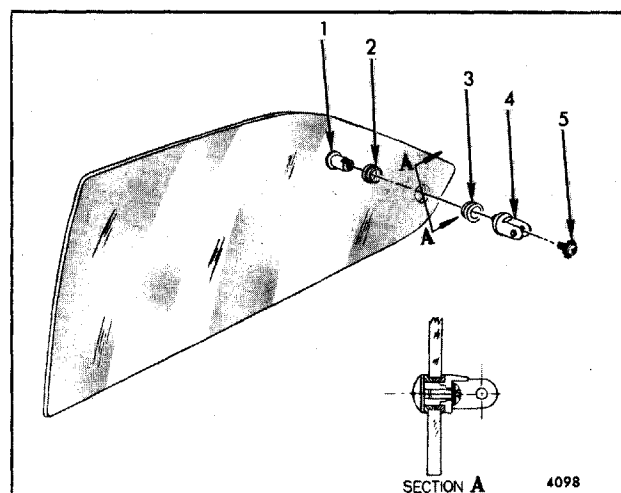

Fig. 6-36-Optional Swing-Out Quarter Window Latch Assembly Support
3. Remove support button attaching screw (Fig. 6-36).